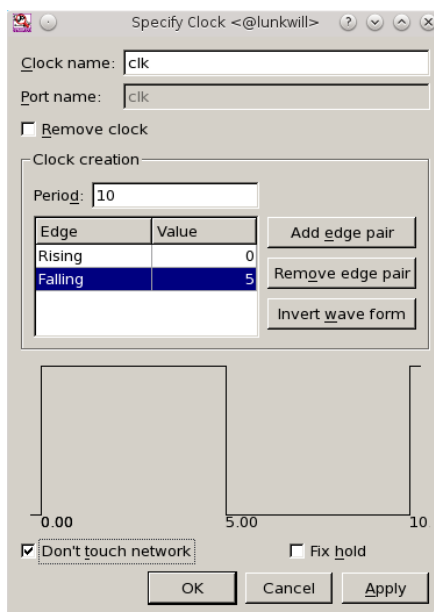

Figure 2.6: Specify Clock window.
8. The window should now look like in Figure 2.6. Press OK.